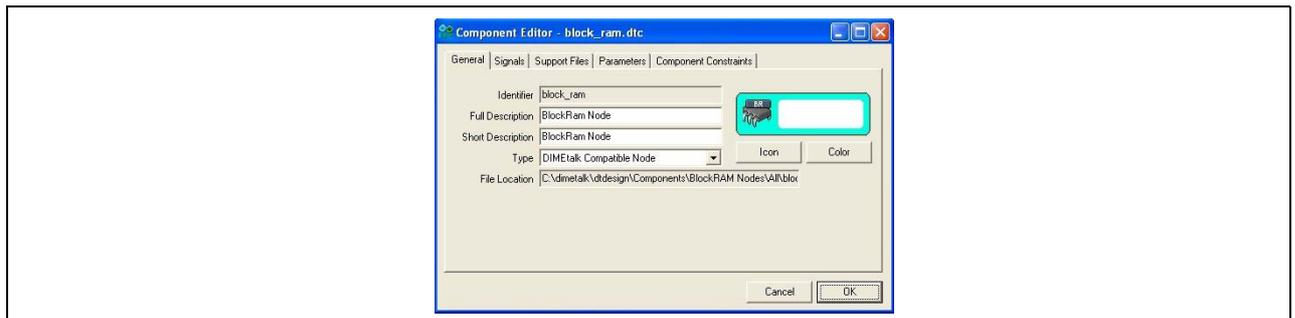

Figure 56: Component Editor
- The Component Editor window, shown in Figure 56, provides some basic information about the component such as a full description, short description, and the type of component. Note that it is not possible to edit the identifier as this has to be unique within DIMEtalk.